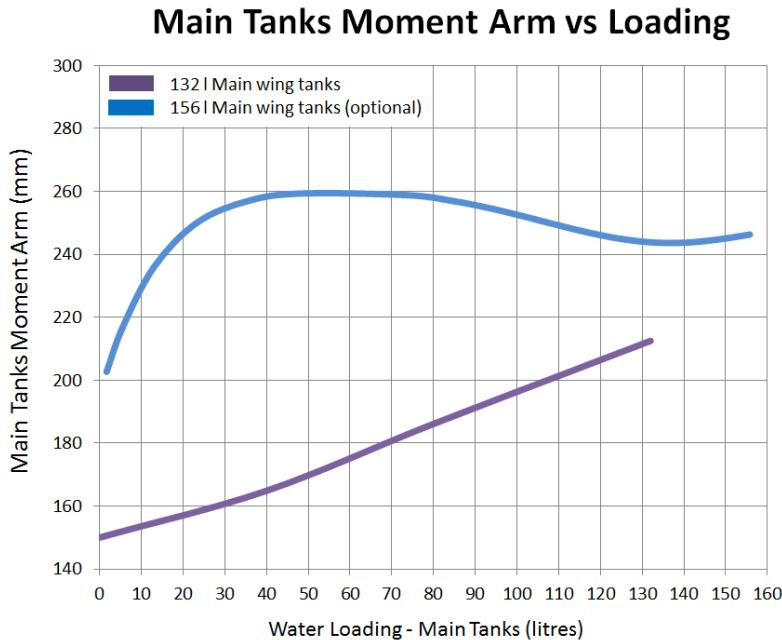

Figure 6-3 Main Tanks Moment arm vs Loading
NOTE: The moment arm of the main water ballast is a conservative approximation and changes as the tanks are filled from 150 mm to 212 mm for the 132 l tanks, and 200 mm to 247 mm for the optional larger 156 l tanks. See Figure 6-3.
5. Plot the mass against the moment on the JS-3 RES Envelope diagram (Figure 6-3).
The plot on the diagram illustrated in Figure 6-3 demonstrates that the CG is slightly forward of the mid position and borders on the maximum allowable weight.
Figure 6-3 illustrates the envelope for the 15 m configuration.